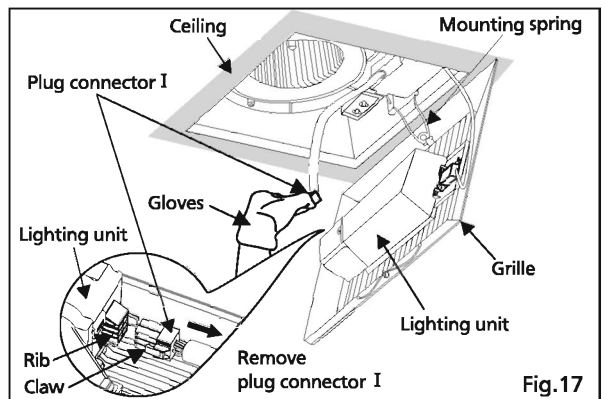

Fig. 17
1. Remove grille by pulling down one mounting spring. Remove plug connector I and sensor unit, then pull down the other mounting spring. (Squeeze mounting spring and pull down carefully) (Fig. 17)